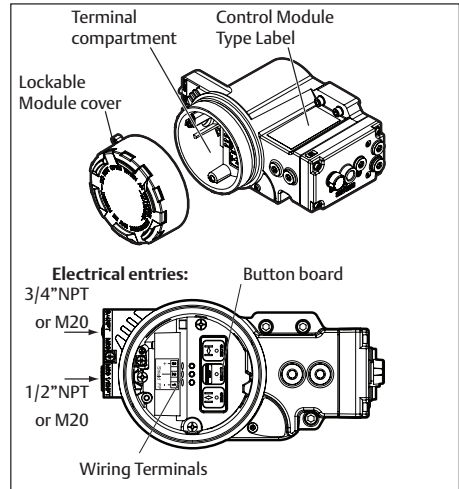

Fig. 4.2 Installing wiring
1. Remove control module cover (see figure 4.2)
4. Mount the function module cover to the housing (see figure 4.2) or continue with chapter 5. Take care that the cover seal is in place to comply to dust and water tightness according to IP66/NEMA4X.